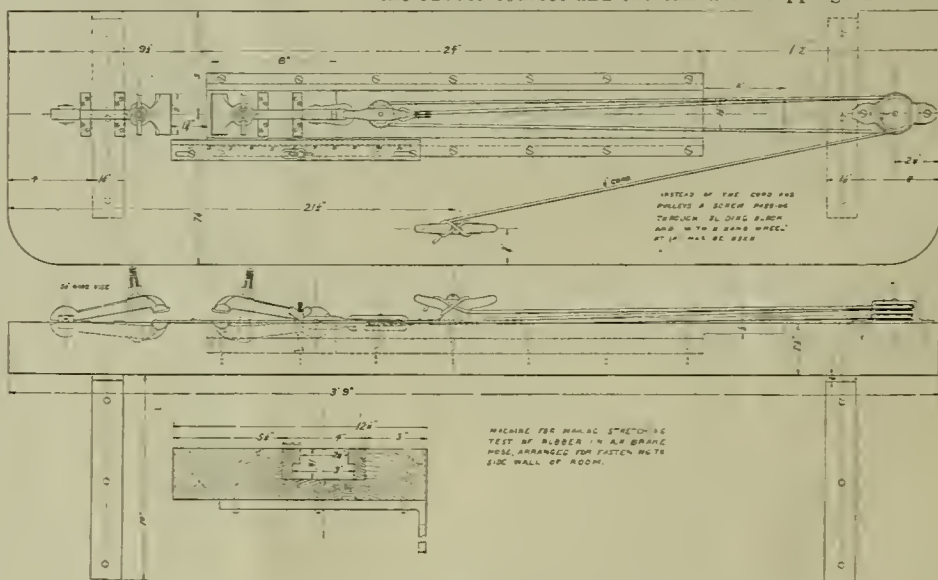

FIG. 2.
After the one-inch section is unwrapped to the tube, if made in the best manner, it should be found very difficult to separate the rubber of the inner tube from the canvas wrapping. A little experience, however, aided by a few drops at a time of naphtha, will enable the separation of rubber tube, rubber cover, and even the friction-skimming coat, all of which are then tested in the stretching testing machine shown in Fig. 2. The method of testing the strips of rubber is clearly detailed in the specifications. If the test hose successfully passes the friction and stretching tests, all of the hose in the shipment are examined to note their compliance with the balance of the requirements.
1. The adoption of a standard passenger car pedestal for 4 1/4 by 8 inch journals as shown in Fig. 2, which is the same as Fig. 2 with last year's report. This pedestal has the same width and length of jaw inside as the present M. C. B. standard pedestal for 3 3/4 by 7 inch journal box shown on M. C. B. sheet 10,